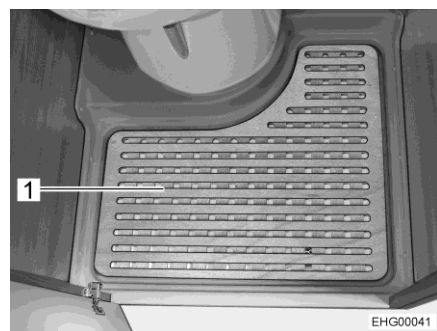

Fig. 68 Removable floor plate
- Take out the removable floor plate (Fig. 68,1) for showering.